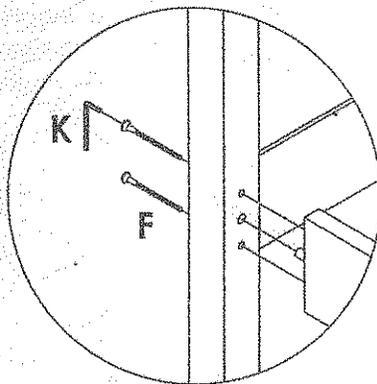

Figure 3
2. Attach front Bottom Bed Side Rail to Bottom Headboards by using JCBC Bolts (F), tighten it up by using an Allen Key (K) as shown in Figure 3.